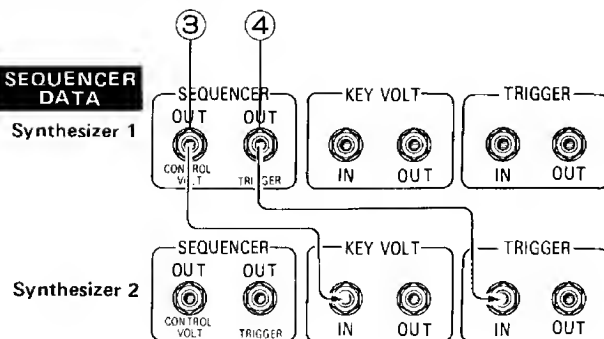

Fig. 2
- Fig. 2 shows the connections for the case where the data of Synthesizer 1 are transmitted to the CONTROL block of Synthesizer 2 to make sounds at Synthesizer 2.